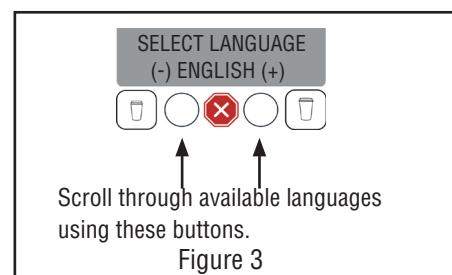

Figure 3
2. Use the (-) or (+) buttons to scroll through the available languages. (Figure 3)